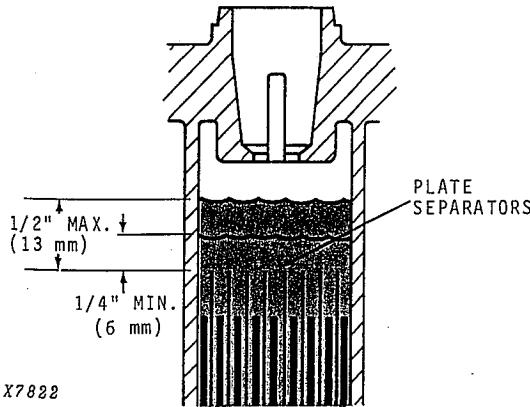

Fig. 4—Keep Electrolyte at the Proper Level to Prevent Explosions
1. Maintain the electrolyte at the recommended level (Fig. 4). Check this level frequently.